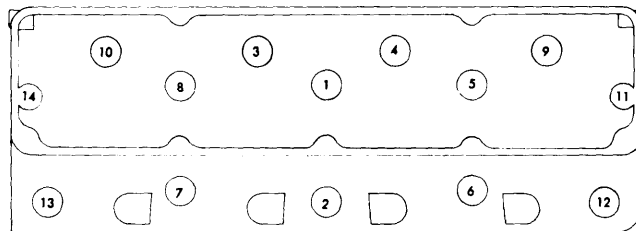

Fig. 1 Cylinder Head Tightening Sequence
2) Position gasket on block with word "TOP" facing up. Install cylinder head and retaining bolts. Tighten bolts in sequence (see Fig. 1).